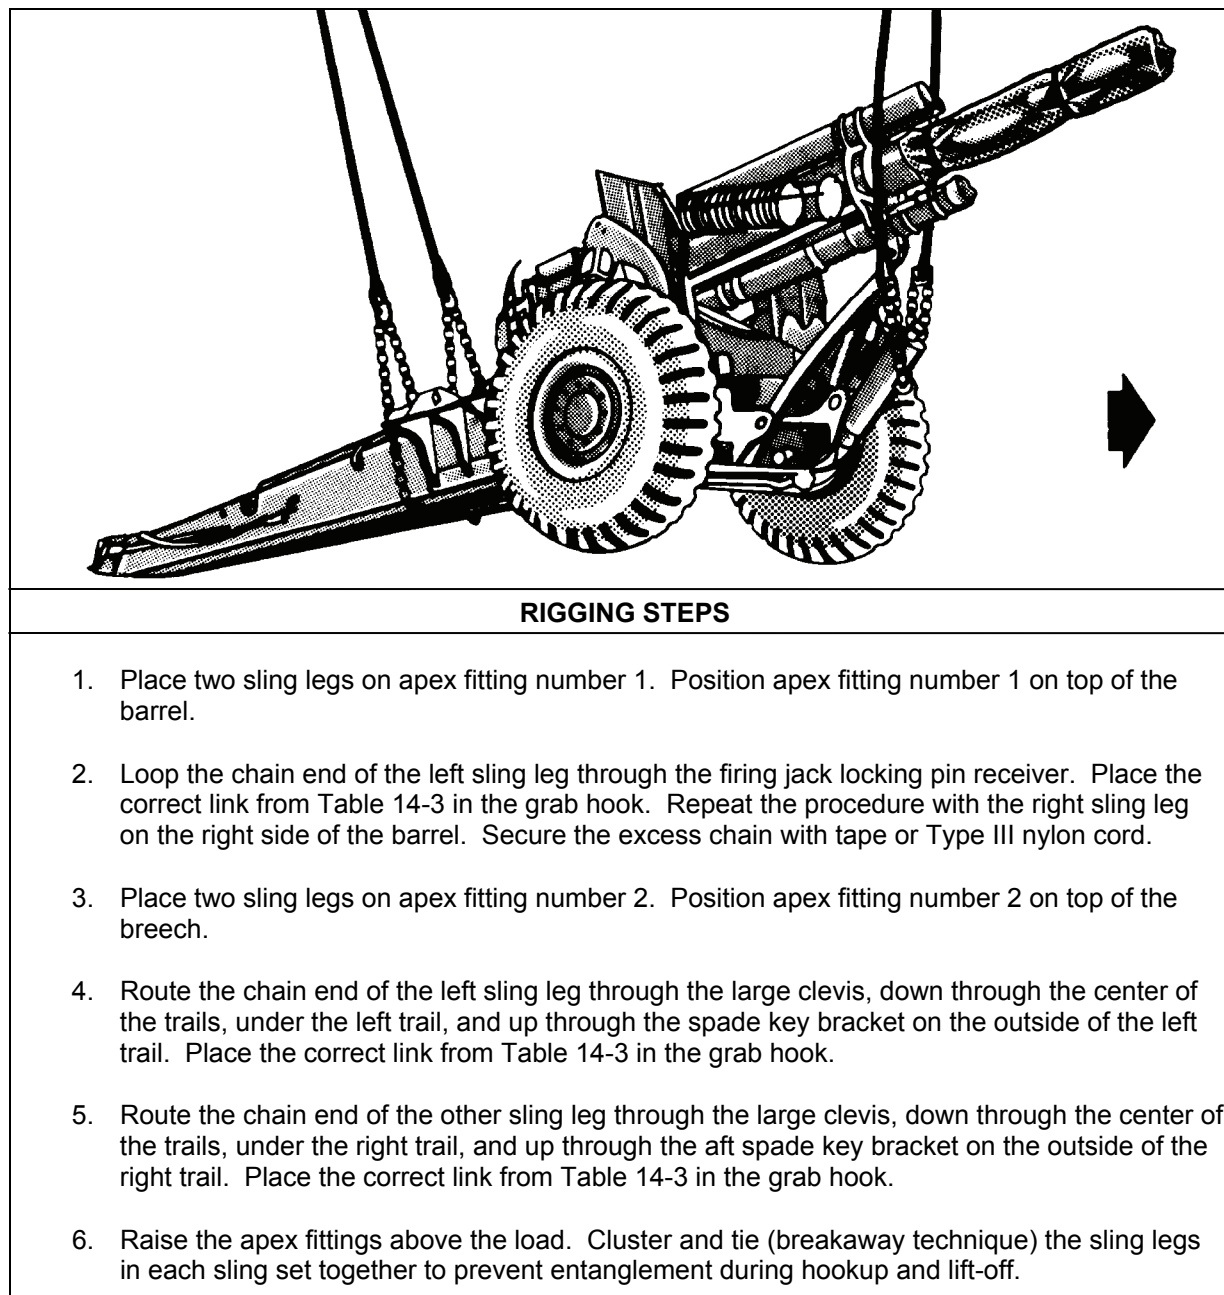

Figure 14-3. M114A1 155-mm Howitzer
- **Rigging.** Rig the load according to the steps in Figure 14-3.